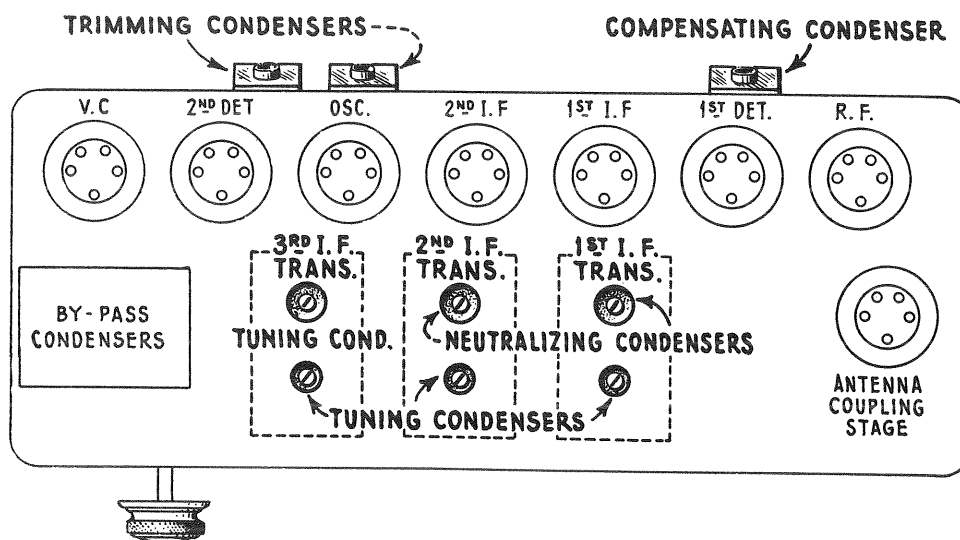

Figure 19—I.F. neutralizing and tuning condensers, oscillator trimming condensers, and R.F. compensating condenser
- (a) Adjust the tuning condensers successively on the third, second and first I.F. transformers (Figure 19) for maximum signal in the loudspeaker and maximum reading on the tuning meter. After making one adjustment on the transformers it is a good plan to repeat, as slight changes may have occurred in tuning the other circuits. No signal, or a loud howl indicates neutralizing condensers are at either extreme, and should be readjusted.
- (a) Leave all adjustments and apparatus in position on completion of tuning. Connect a pair of phones across the cone coil of the reproducer unit. Turn the power off while making this connection. Place dummy Radiotron in first I.F. socket. Now adjust the neutralizing condenser on the first I.F. transformer (Figure 19) for the position of minimum or no signal. This is easily identified and the adjustment is not critical.